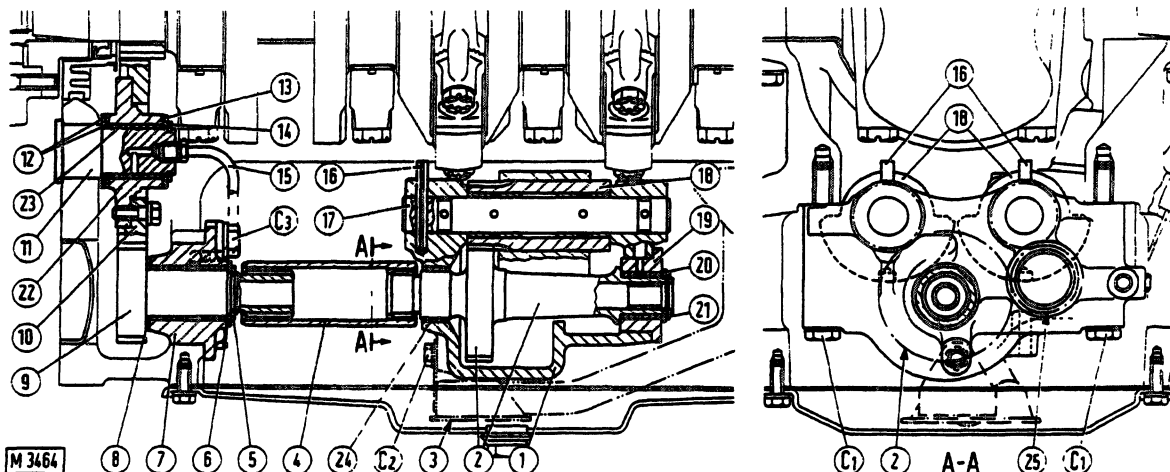

Fig. 51 - Section view of contrarotating weights vibration damper.
- remove screws (C₁, Fig. 51) securing damper box to oil pan, move it away from the support in order to remove locating dowel and move box toward the rear of the engine to free sleeve coupling (4) from drive unit (9) and remove it;